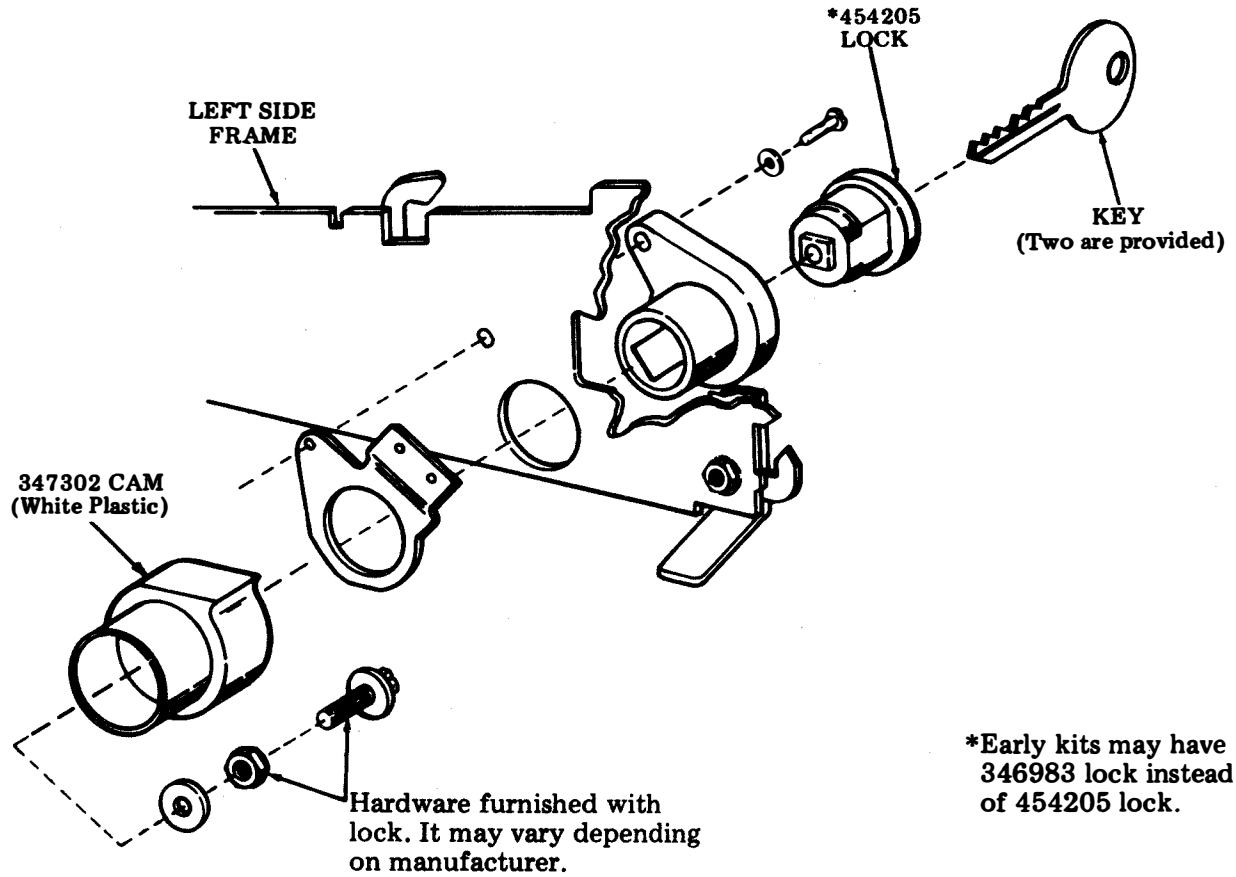

Fig. 8
- ③ Assemble the 347302 cam to the *454205 lock with the high part of the cam toward the switch (see ④). Secure with nut and lockwasher or screw with lockwasher, whichever is supplied. See Fig. 8.